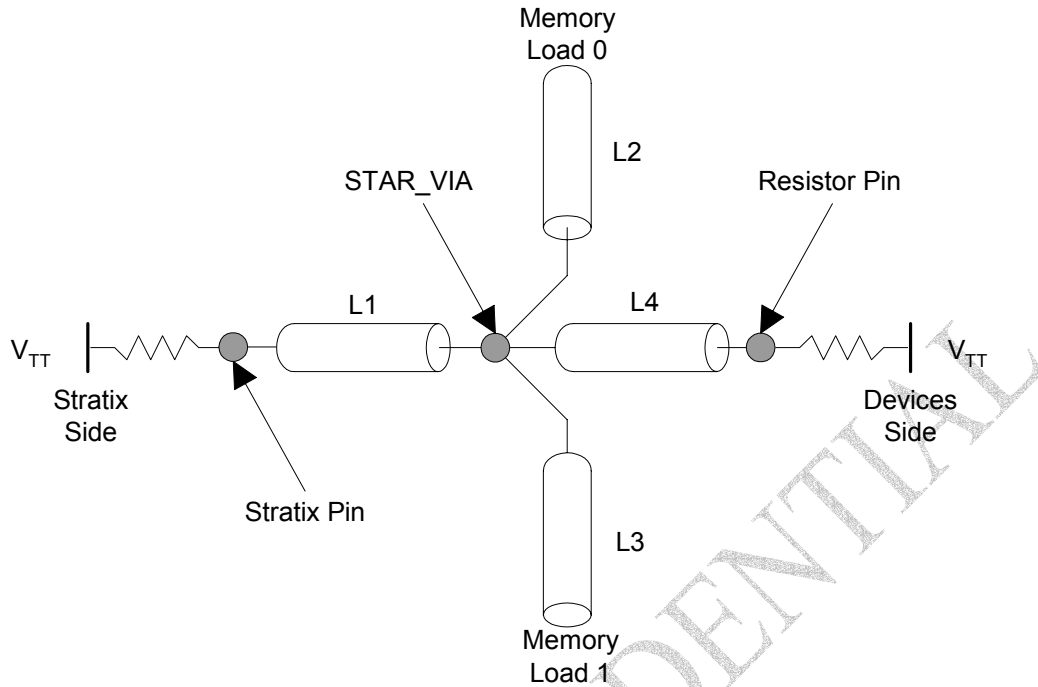

Figure 4-2
12. Within a given Y-shaped connection as described in the previous rule there must be some symmetry and matching within stubs in these traces. These stubs are shown in Figure 4-2 below. In this case the leg L1 should be a majority of the trace. Legs L2 and L3 should be matched within +/- 0.030 inches. The length rule for matching within a group (read group or write group) is NOT the total length of this trace. It is the length of EITHER L1 and L2 or L1 and L3. The connection in the center where all four stubs come together should be routed as shown below (not a 90-degree connection but a 45 degree connection). Leg L4 should be less than 0.750 inches.